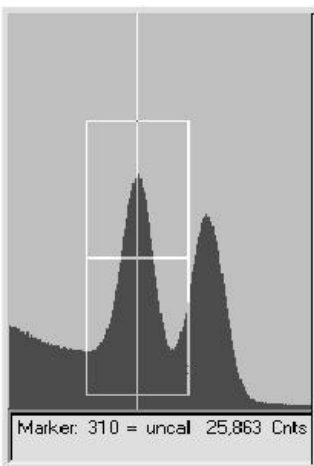

Fig. 12. The Rubber Rectangle’s Crosshair.
- Drag the mouse diagonally across the area of interest. As you drag, the mouse will be drawing a reverse-color rectangle bisected by the marker line to form a “crosshair” (Fig. 12). This makes it easy to select the center channel in the area of interest — for instance, the center of an ROI you wish to mark or unmark, a portion of the spectrum to be summed, or a peak for which you want detailed information.